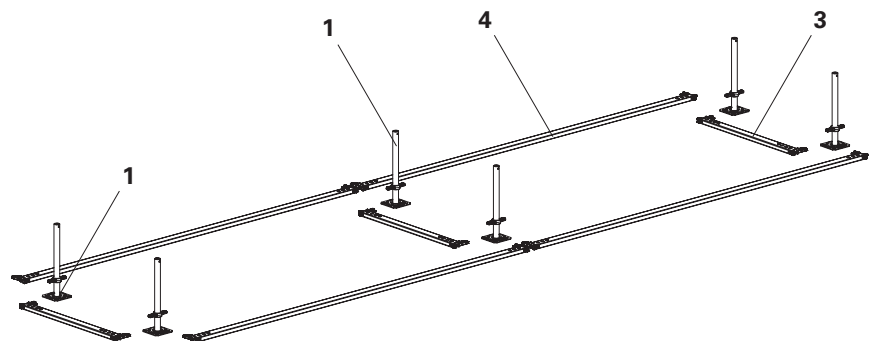

Fig. A1.01
2. Set up Base Spindles UJB (**1**) for all standards. (Fig. A1.01)